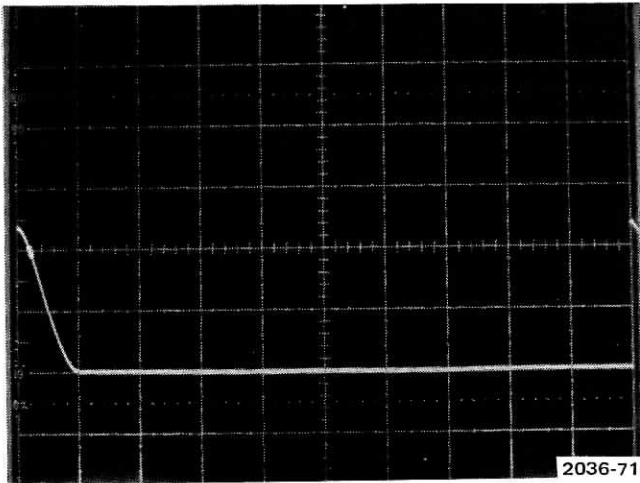

Fig. 6-3. Sweep start and stop adjustment (464, 465, or 466).
- f. Set the CH 1 vertical POSITION control so the falling edge of the first time marker intersects the minor graticule division mark closest to the extreme left major vertical graticule line (see Figure 6-3). Do not change the vertical POSITION control setting for the remainder of Step 1.